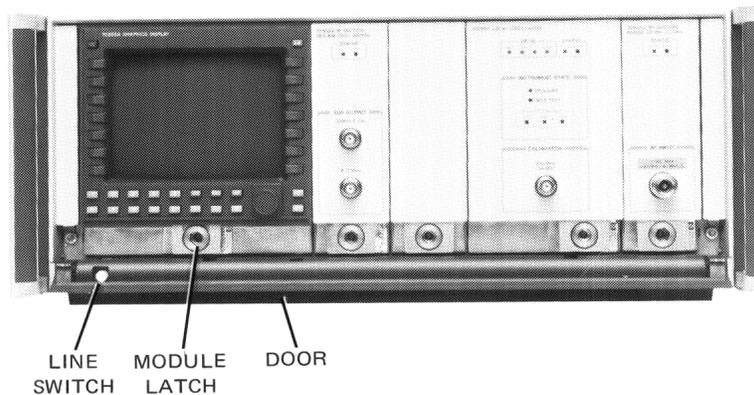

Figure 2-20. Module Removal/Replacement
1. Set the mainframe LINE switch to OFF. See Figure 2-20.